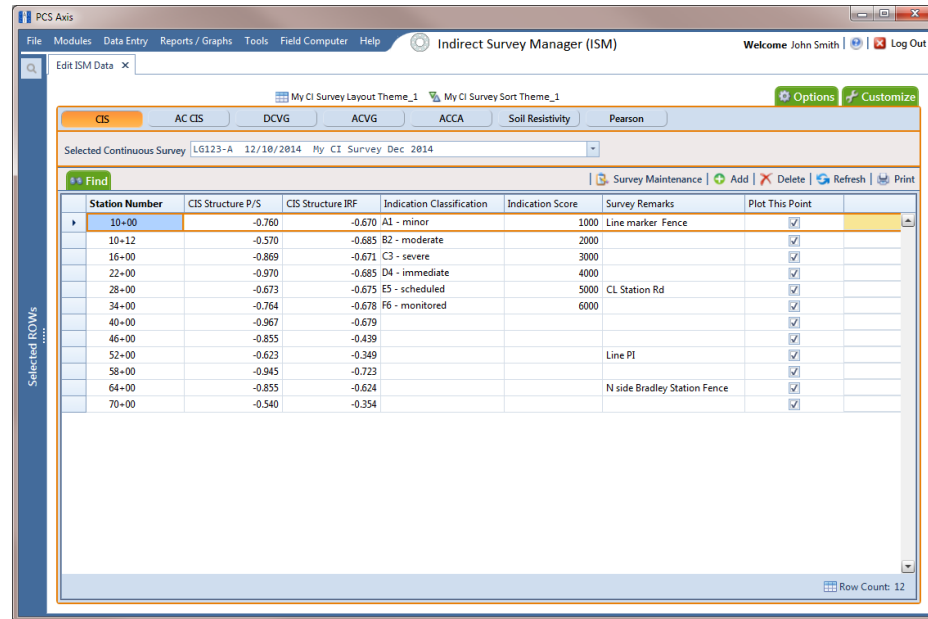

Figure 7-78. Edit ISM Data
- 3 Click **Data Entry > Edit ISM Data** to open the ISM data entry grid. Then click a button labeled with the type of continuous survey data you want to work with, such as the **CIS** button  (Figure 7-78).